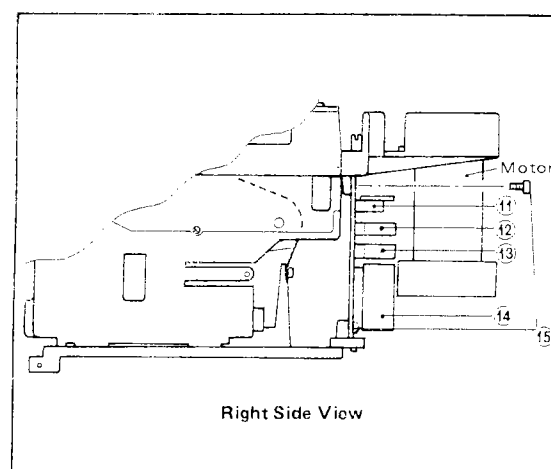

Figure 10-6. Connectors Removal.
- (2) Remove four female multipin connectors (numbers 11, 12, 13, and 14) from the rear of the chart drive unit (see Figure 10-6). Then remove the two screws (number 15) that fasten the printed circuit board.
- (4) Mount the printed circuit board using the two screws (number 15) — (see Figure 10-6).